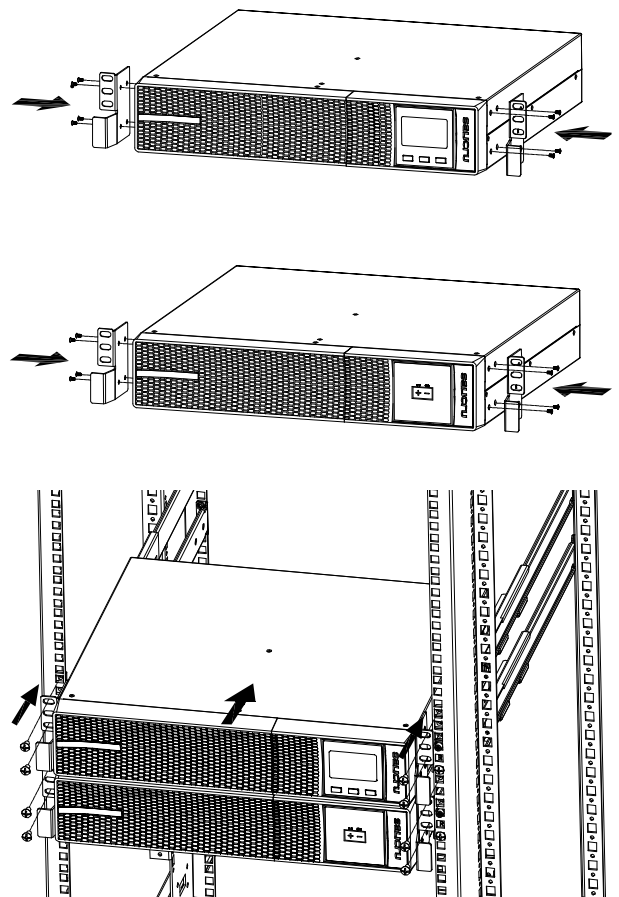

Fig. 5. Rack-type mounting in a 19" cabinet with backup extension (battery module).
- Proceed as follows (see Fig.5):